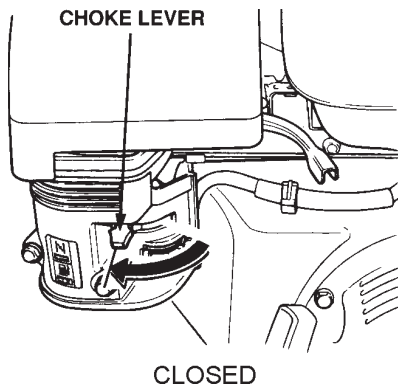

Figure 13. Choke Lever (Closed)
7. If the engine has started, slowly return the choke lever (Figure 13) to the **CLOSED** position. If the engine has not started repeat steps 1 through 6.